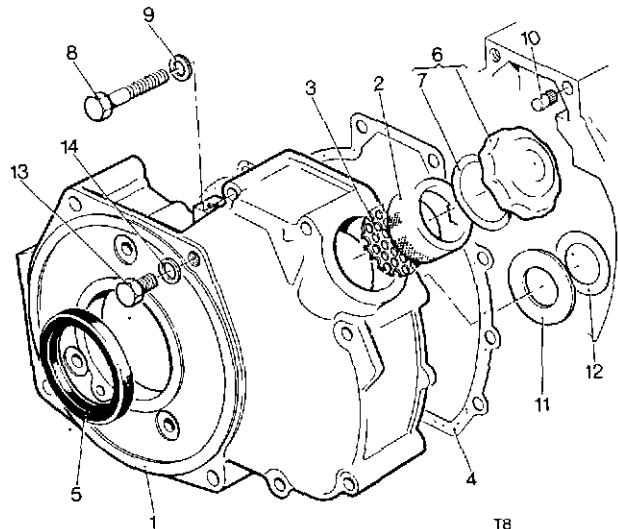

**Fig. 76 End Cover**
- (g) Remove thrust washer and end float shim. (Fig. 76)